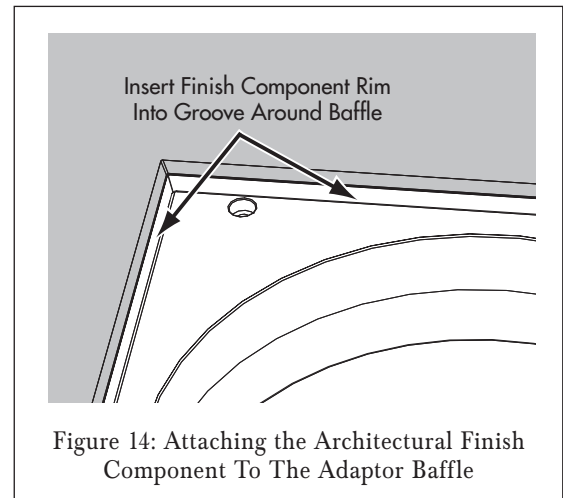

Figure 14: Attaching the Architectural Finish Component To The Adaptor Baffle
- The foam-tape covered rim on the back of the Finish Component inserts into the groove around the outer edge of the Adaptor Baffle. See *Figure 14*.